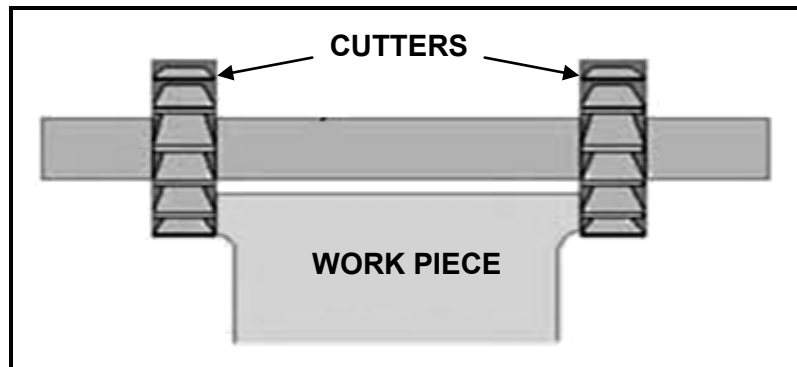

FIGURE 1.1
1.7 Identify the type of milling process shown in FIGURE 1.1 below.